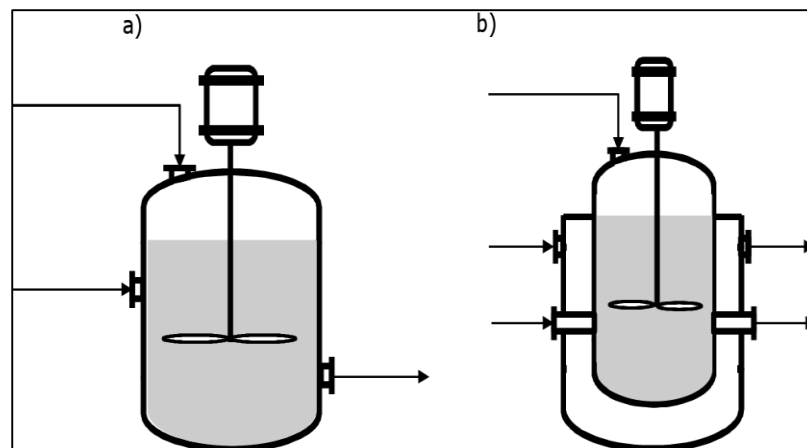

Figure 3: Chemical reactors: (a) Old configuration (b) New configuration
- (3). Figure 3(a) shows the illustration of a chemical reactor consisting of stirred tanks including stream for monomer, solvent, initiator, and product removal. The process has a total operational time of 6 hours at 180°C. However, an excessive exothermic reaction occurs that lead to thermal runaway. To solve this, a new setup is suggested as shown in Figure 3(b).
- (a). Define the type of reactors shown in Figure 3.
- (b). Discuss the new setup that has been done in Figure 3(b) and explain how the new setup could prevent excessive exothermic reaction.